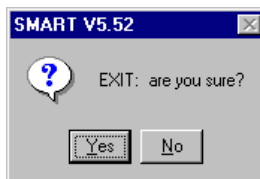

Figure 4-41
- Click File > Exit to leave the SMART program. The exit message appears (Figure 4-41).